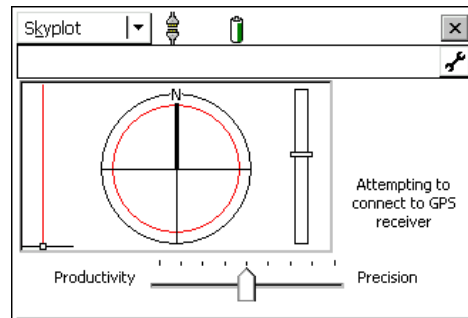

Figure D-2. Skyplot
- b** Double-tap the GPS Controller icon on the Allegro to display the *Skyplot* window (Figure D-2).